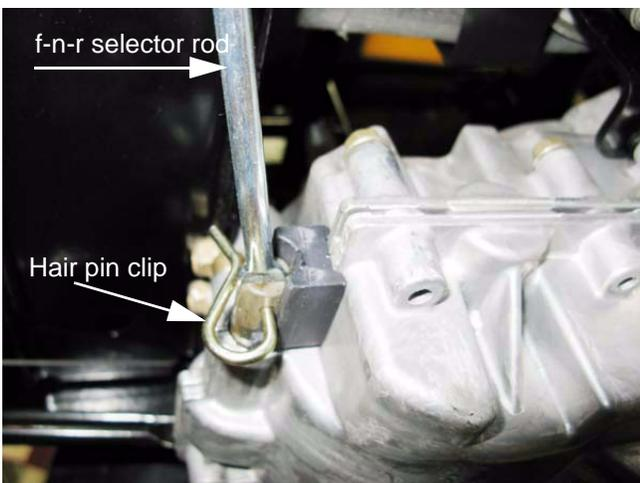

Figure 6.78
7. Disconnect the forward-neutral-reverse gear selector rod from the transaxle by removing the hair pin clip. See Figure 6.78.